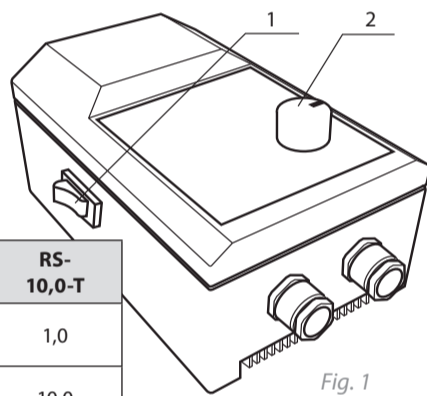

Fig. 1
RS-..-T series controllers (hereinafter "Device") are used in ventilation and air conditioning systems to control the output of single-phase fans by means of smooth variation of the voltage supplied to the motor. The device is controlled by means of the control knob 2 (see Fig.1) on the front panel.
The controller has the On/Off button 1 (see Fig.1).
2 (see Fig. 1) in the range selected during setup. The minimum power output from 25 to 100% is set by means of trimming potentiometer 9 (see Fig. 3) mounted **inside** the controller. Fuse 7 (see Fig. 3) prevents the device and the connected fan from excessive current consumption.
- Plug in connector 8 and set speed selector handle 2 (see Fig.1) to the minimum value (counter-clockwise). Then use potentiometer 9 (see Fig. 3) to set the minimum fan speed as required.